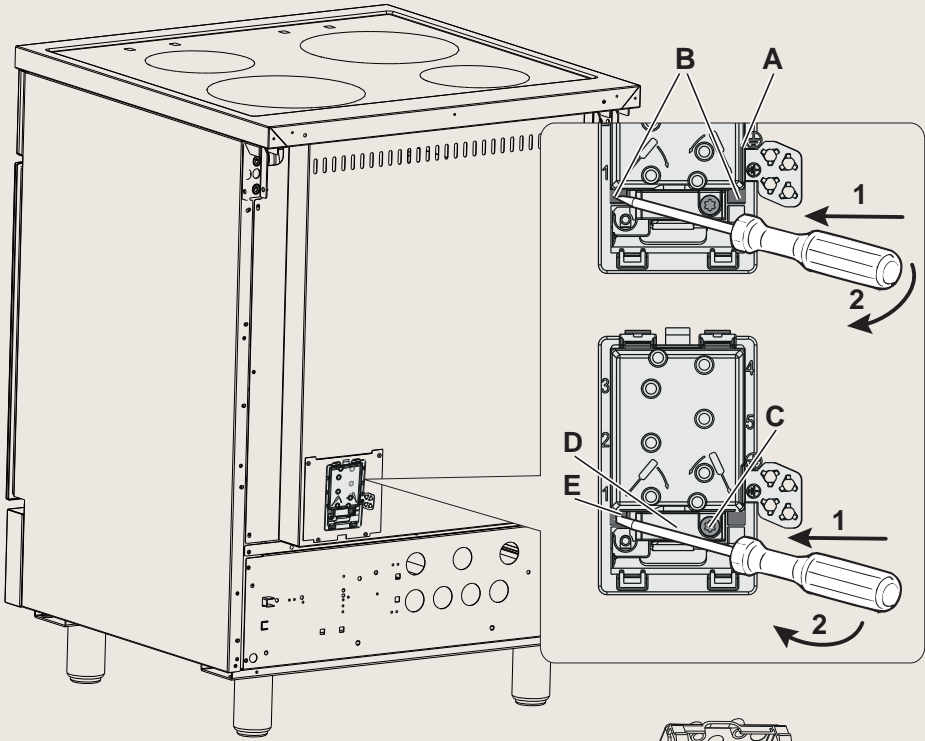

Fig. 2.2
- * Unhook the terminal board cover "A" by inserting a screwdriver into the two hooks "B" (fig. 2.2). Open completely the terminal block cover "A".
- * Unscrew the screw "C", then unhook the cable clamp "D" by inserting a screwdriver into the hook "E". Remove completely the cable clamp "D" (fig. 2.2).
- * Connect the phase, neutral and earth wires to terminal board "F" according to the diagrams in fig. 2.3; the U bolts "G" (fig. 2.2) shall be used as indicated in the diagrams in fig. 2.3 (they are supplied already fitted to the terminals or inside the terminal board, behind the cover).